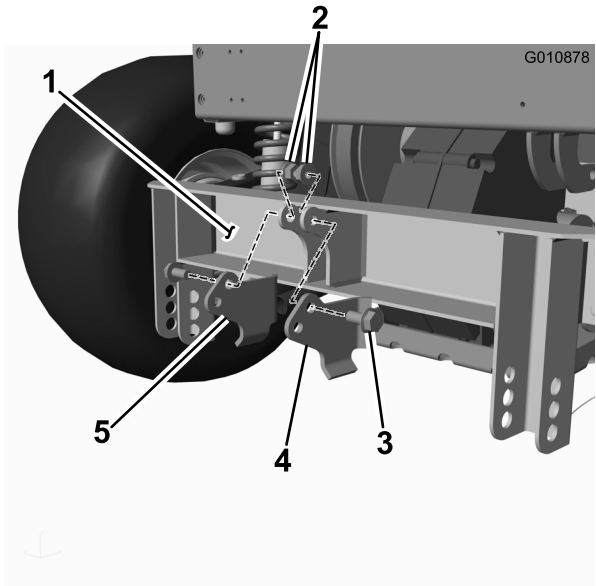

Figure 4
- Install the left and right actuator plates to the rear lift frame as shown in Figure 4. Secure the plates to the frame with two bolts (1/2 x 1 inch) and two lock nuts (1/2 inch). Torque the fasteners to 75 ft-lb (101 N-m).